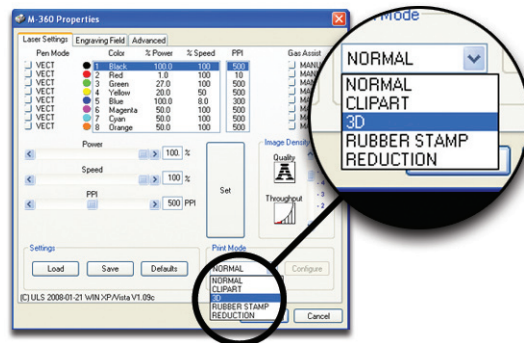

Figure 2
3. Turn on 3D mode when running a photo that’s been processed through 1-Touch Laser Photo - *Figure 2*.